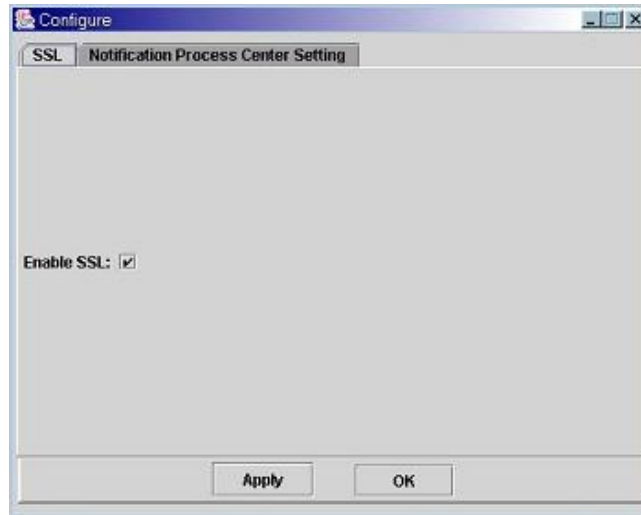

Figure 13-2: The NPC Initial Screen
Step 4. The configuration utility starts as a Java Applet. (See *Figure 13-2*)
SSL stands for “Secure Sockets Layer Handshake Protocol.” As shown in *Figure 13-2* above, the initial screen defaults to the SSL option. Select the check box if you want to enable SSL connection for the management session with the array.